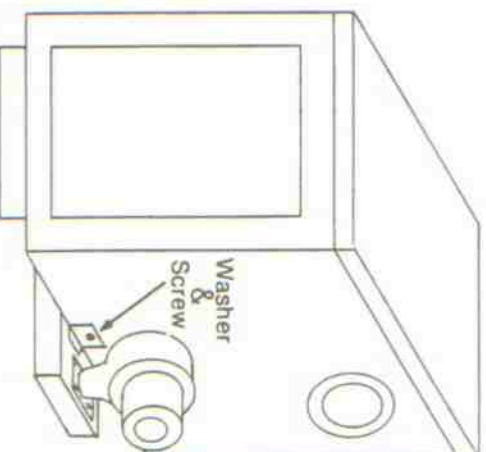

Figure 12
- B. Slide outlet duct under the heater and fasten it with screw as shown in figure 12.